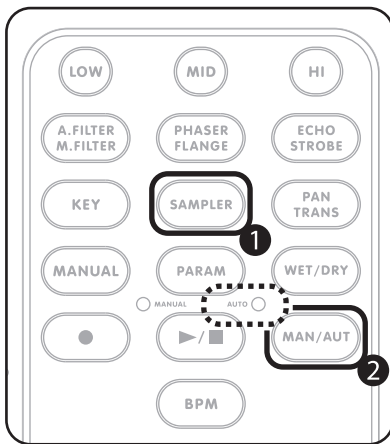

Figure 4.27
Press the SAMPLER button Figure 4.27 (1). This puts you into SAMPLER mode and allows you to play back any samples you already have stored in the sample slots. Set the Record mode to AUTO by pressing the MAN/AUT button (2). The red AUTO LED will light up to let you know you are in the right mode.